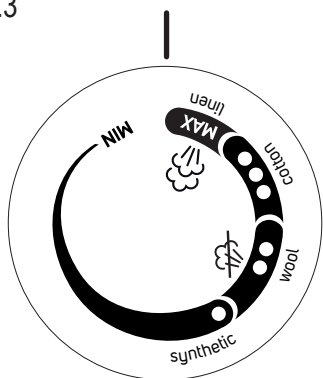

Fig.4
- ◆ The indicator lamp (B) will light up (Fig.4)
- ◆ During the heating process, and depending on the setting, the (C) indicator will flash until the steamer reaches temperature, once this happens the indicator will remain constant, indicating that it is fully ready to iron. This process takes about 60" and is controlled by the product's electronics.
- ♦ Wait until the pilot light (B) has gone out which will indicate that the appliance has reached an adequate temperature.